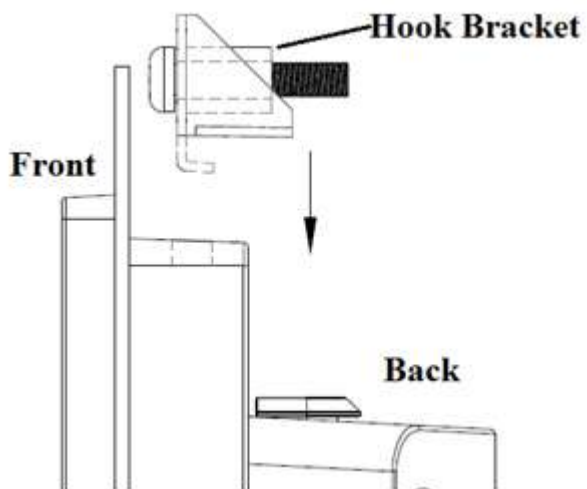

Figure 2.29 Hook brackets for panel mounting
2. Install the panel PC in the cabinet and retrieve eight hook brackets from the accessory box (Figure 2.29).